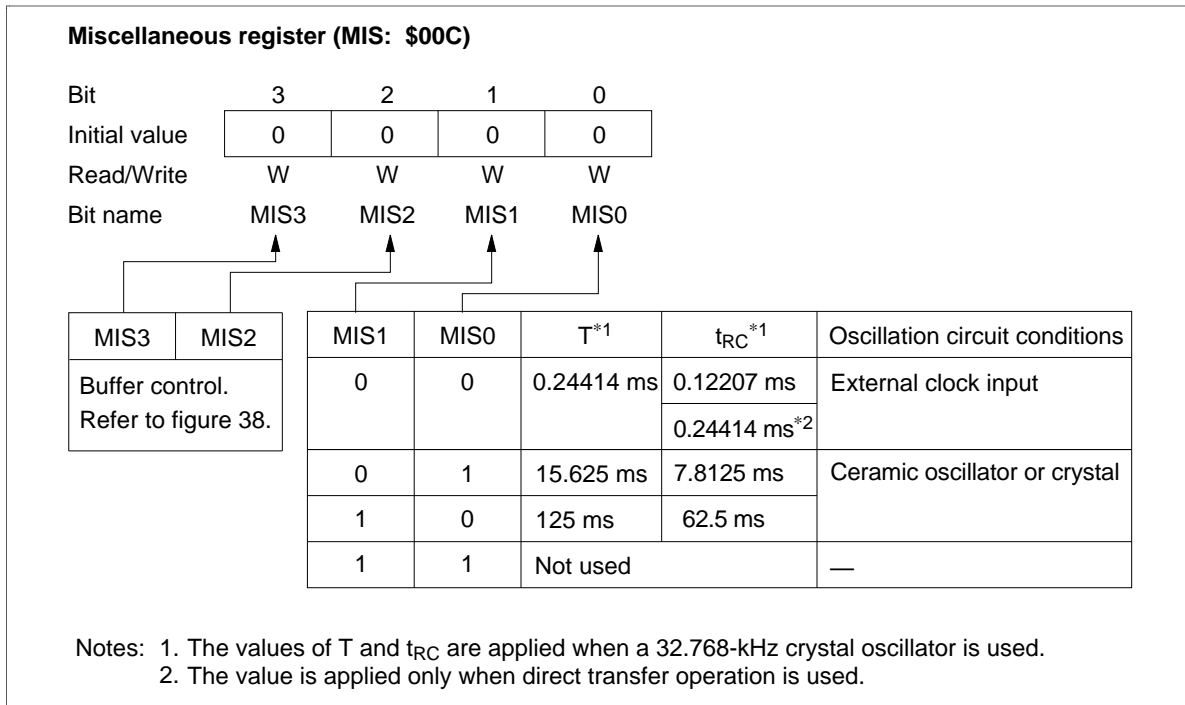

Figure 18 Miscellaneous Register (MIS)
Interrupt Frame: In watch and subactive modes, ϕ_{CLK} is applied to timer A and the $\overline{INT_0}$ circuit. Prescaler W and timer A operate as the time-base and generate the timing clock for the interrupt frame. Three interrupt frame lengths (T) can be selected by setting the miscellaneous register (MIS: \$00C) (figure 18).